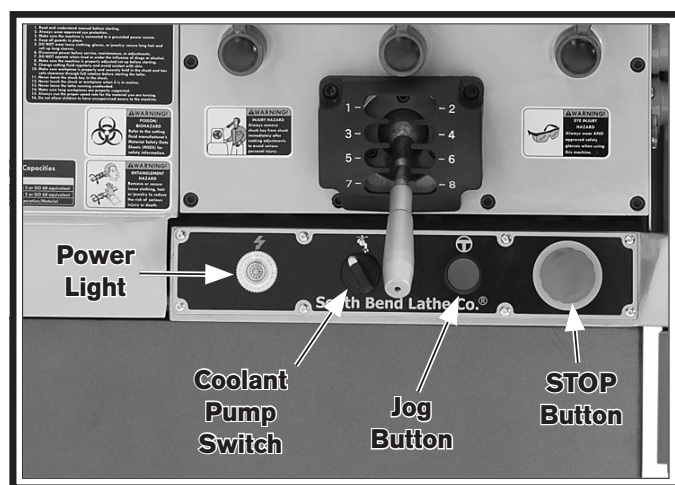

Figure 23. Control panel.
5. Push the STOP button on the control panel (see **Figure 23**), and point the coolant nozzle into the chip pan.